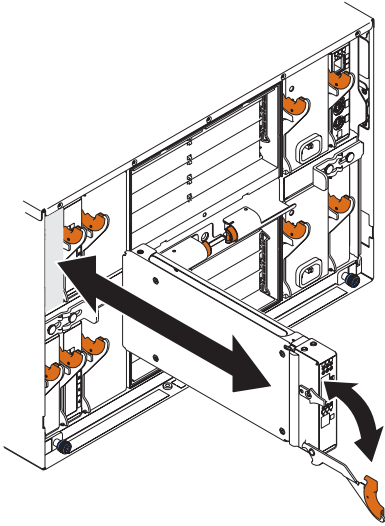

Figure 5. Fibre Channel switch module release latch
5. Pull the release latch toward the bottom of the switch module, as shown in Figure 5 on page 20. The module moves out of the bay approximately 0.64 cm (0.25 inch).